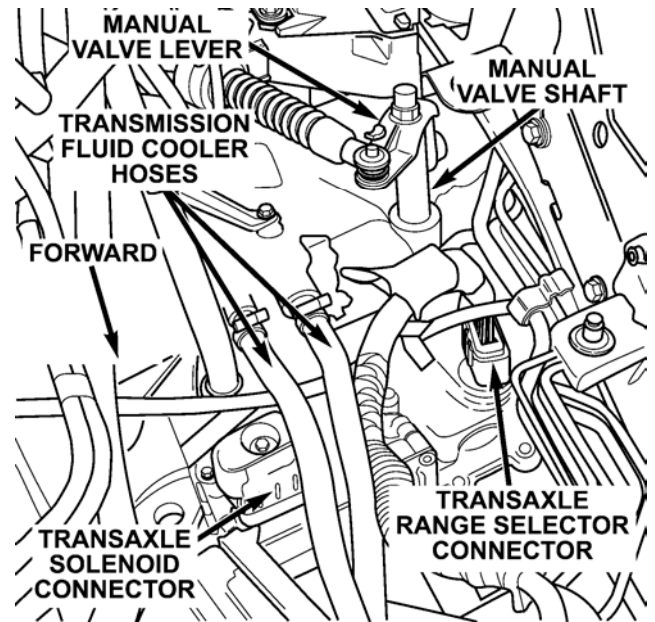

Figure 1 - JR Model Shown
6. Remove the manual valve lever from the manual valve shaft (Figure 1).
7. **For JR, PL and RS models**, disconnect the transaxle range selector connector from the transaxle (Figure 1).
30. **For PT models**, connect the transaxle range selector connector to the transaxle (Figure1).
32. **For JR, PL and RS models**, connect the transaxle range selector connector to the transaxle (Figure 1).